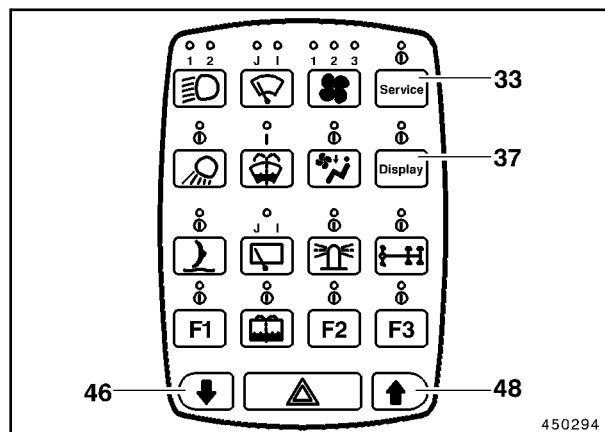
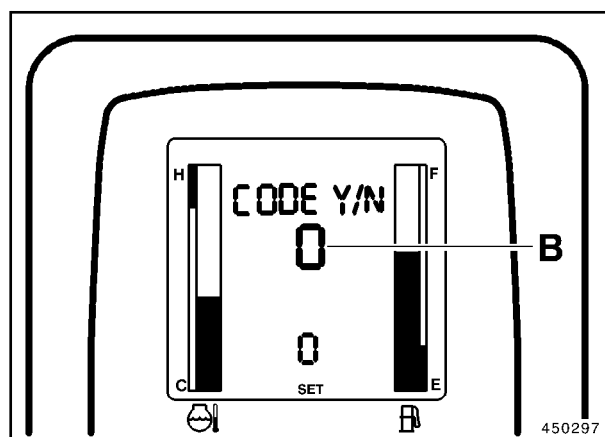

Fig. 9
Fig. 10
- Press button (33, Fig. 9) repeatedly until **"SET"** and **"Code Y/N"** are shown on the display (Fig. 10), then
- Press button (46) to suppress the code request.